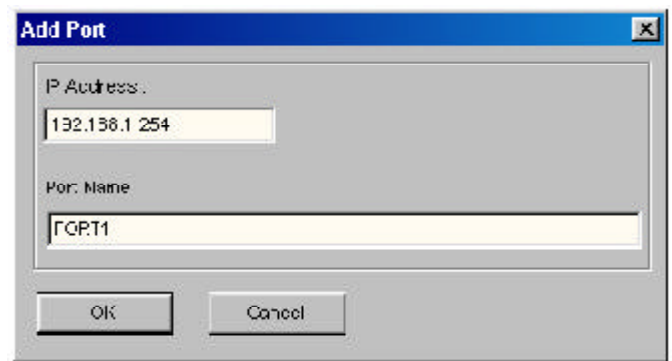

Fig. 4.12
Step 12 Type in the **IP address** of the Print Server and the **port name** you have written down on the piece of paper in Section 3 and click **OK**. See *Fig. 4.12*